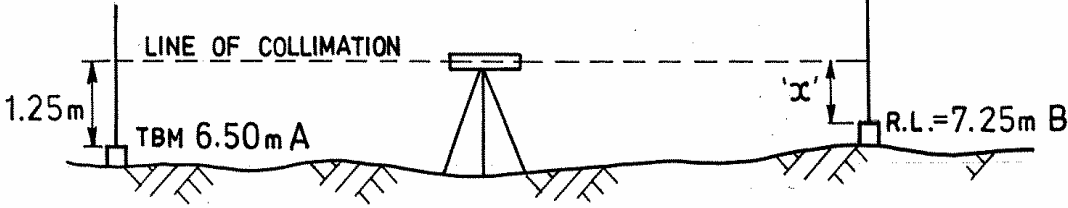

Figure 6
- 10 Calculate what the staff reading would be at X in figure 6 below if a level reading taken at the TBM (A) is 1.25 m and a reduced level at B of 7.25 m is required.
b) Fig 6 = 6.600 mm; Fig 7 = 71.00 mm